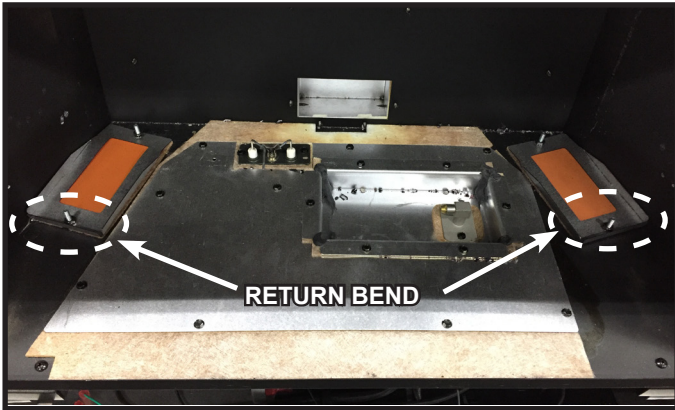

Figure 12.
- Place one light glass hold down over each piece of accent glass. Ensure edge with return bend is towards the front of the firebox. See Figure 12.